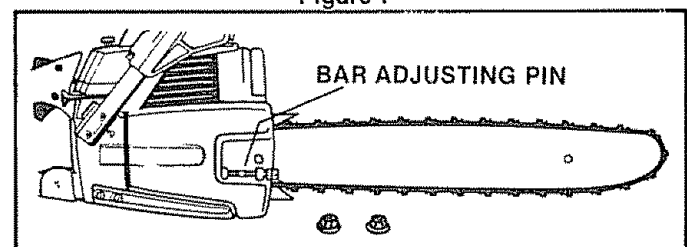

Figure 8
- Install the Bar Clamp by sliding the bar clamp over the mounting studs and fitting the bar adjusting pin into the round hole on the Guide Bar. Figure 8.